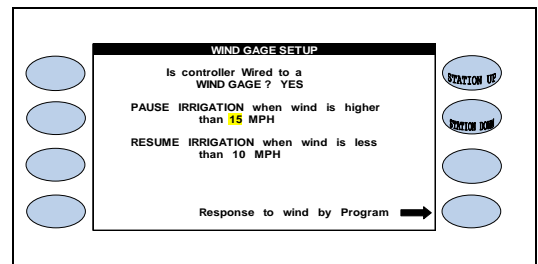

Figure 5.16
3.  Press the blue **ARROW** keys to move the cursor to the next entry (Figure 5.16).